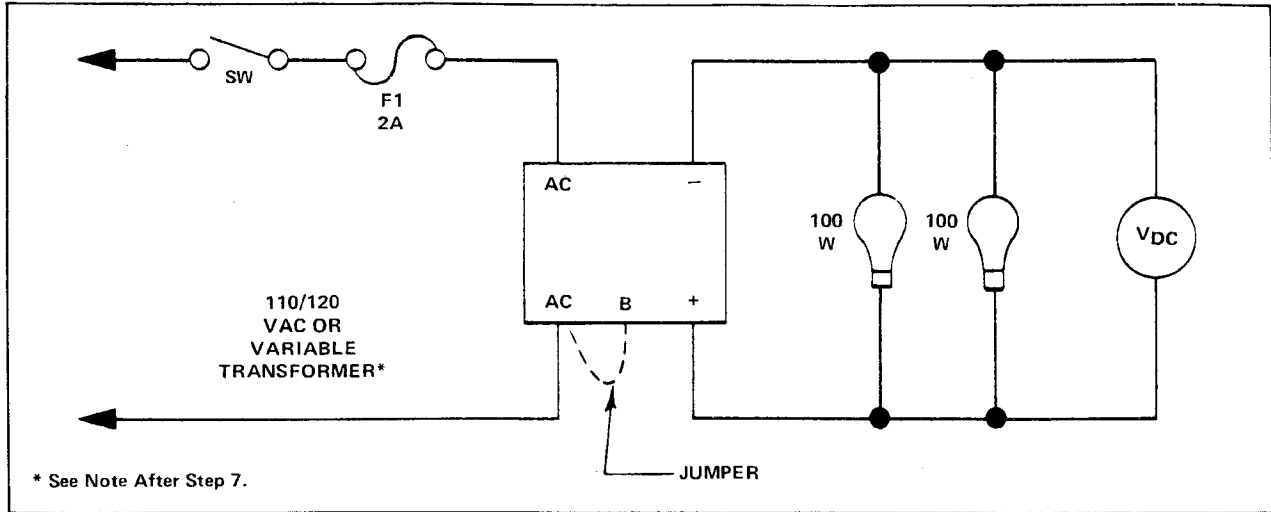

Figure 6-25. Wiring Diagram – Voltage Regulator Field Test
1. Connect two 100 watt light bulbs across "+" and "-" terminals of regulator. See Figure 6-25.
4. Connect one pole of (on-off) switch and the fuse to one of the "AC" terminals on the regulator. Connect other pole of switch to the 110/120 AC source (Figure 6-25). Connect other "AC" terminal to 110/120V AC source.